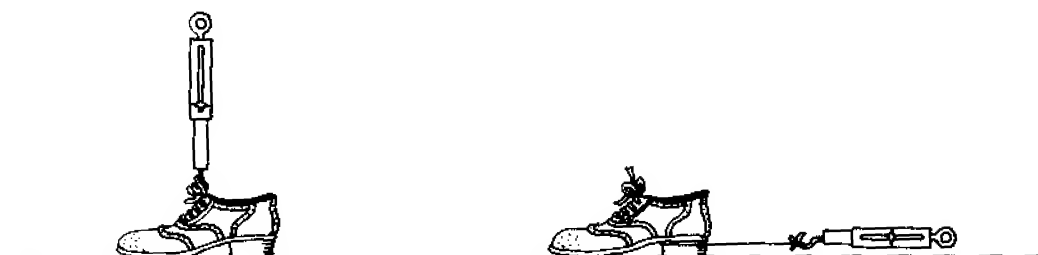

Figure 10.2 Using a dynamometer
2. Using the same dynamometer, measure the horizontal force needed to just start the shoe sliding (see Figure 10.2).